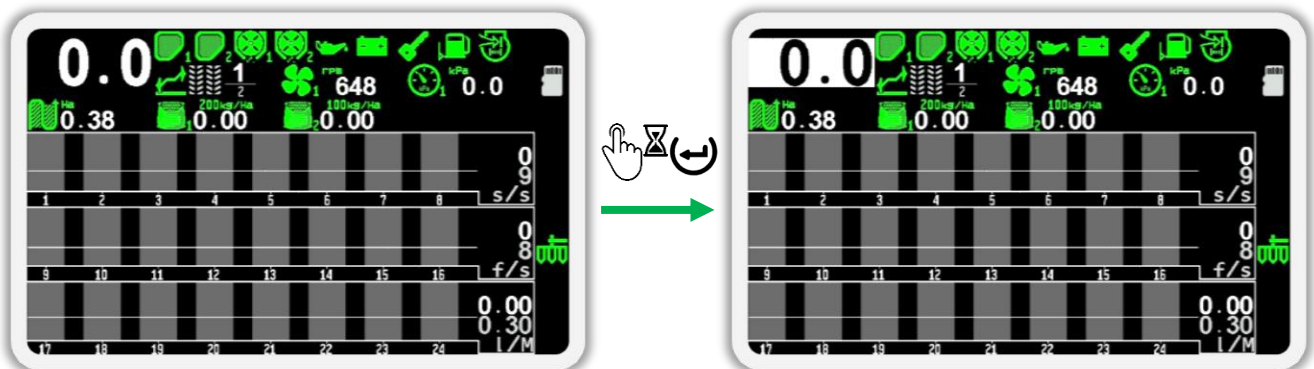

Figure 72 Switching main screen to sensor setup mode
1. Press the  “Menu” button for a few seconds on the main screen to enter the sensor setup mode (see Figure 72). The picture on the right shows the selected speed sensor. The selected sensor will be displayed inside a white rectangle.